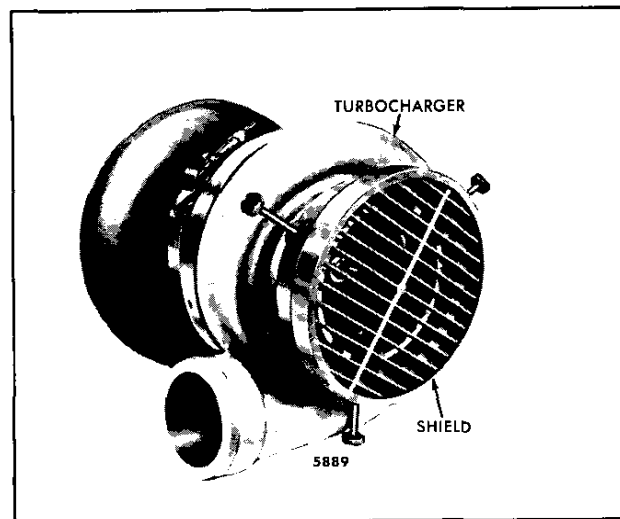

Fig. 1 - Inlet Shield
**NOTE:** A turbocharger compressor inlet shield, J 26554, (Fig. 1) is available for use anytime the engine is operated with the air inlet piping removed. The shield helps to prevent foreign objects entering the turbocharger and prevents a serviceman from touching the moving impeller. The use of this shield *does not* preclude any other safety practices contained in this manual.